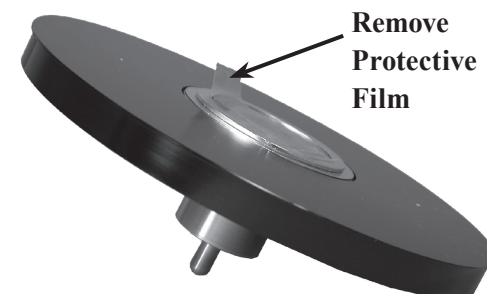

Figure 6
5. Invert the just assembled spindle/inner platter and remove the protective film from the bottom. Refer to figure 6.